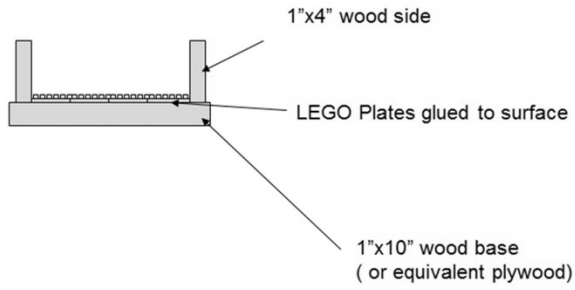
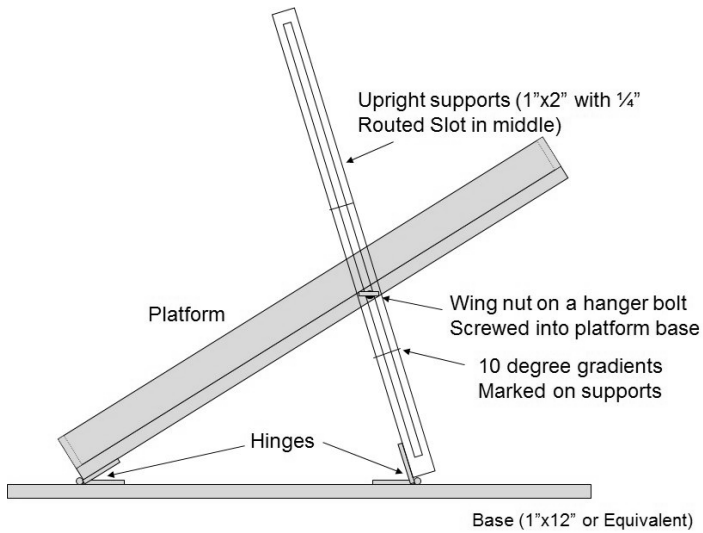
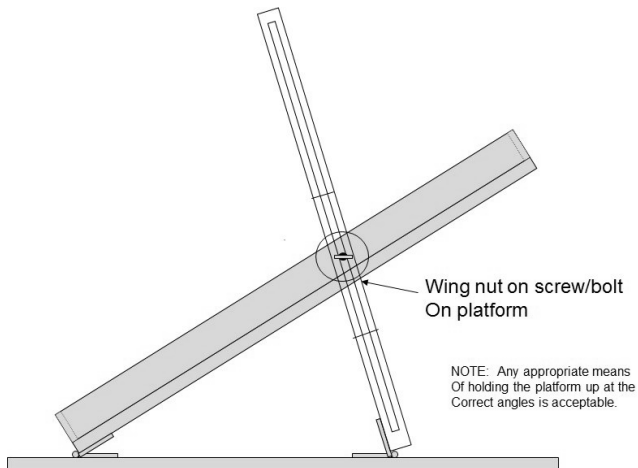

Figure 4 - Cross section of slope platform
Figure 5 - Slope Climbing Assembly - side view
Figure 6 - Slope Climbing diagram showing location of alternative bolt location
- iii) For construction guide, (see Figure 4, Figure 5, Figure 6, Figure 7)
- (1) Clamp
- (2) Grapple
- (3) Or use opposing force on the walls to gain support from the walls of the climbing platform, except that the robot may touch the lower end wall of the slope.